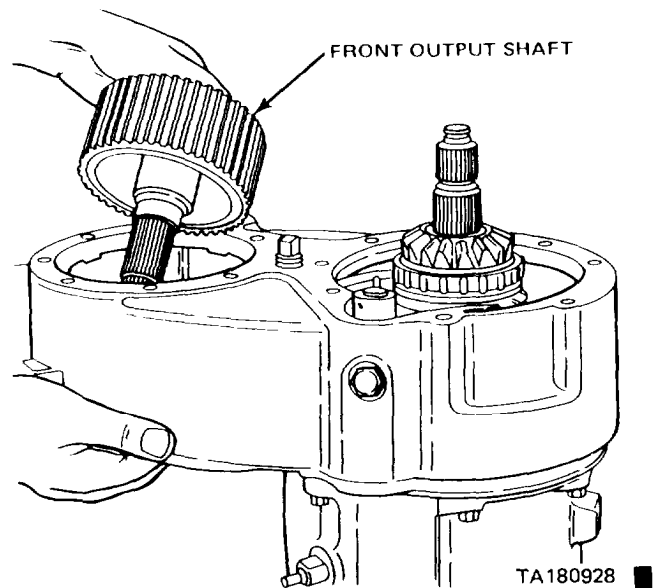

Figure 17-7. Removing Front Output Shaft.
(12) Pry the output shaft front bearing out of the lower side of the case.
(13) Disengage the front output shaft from the chain and remove the shaft from the case (figure 17-7).